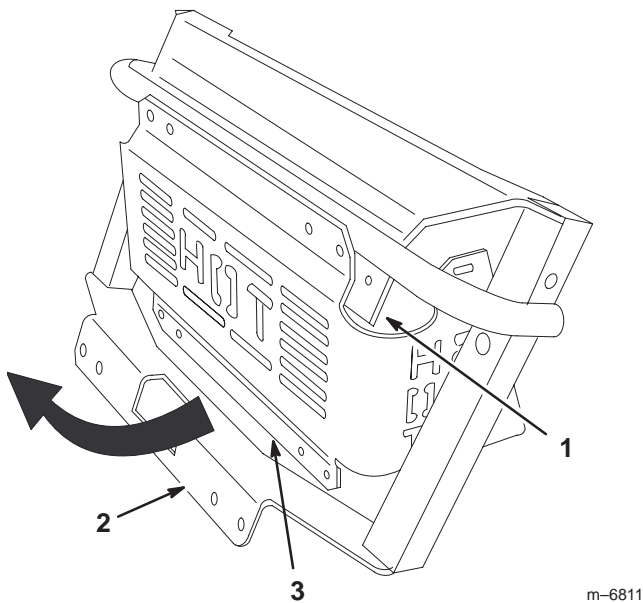

Figure 6
7. With the bagger bar in the heat shield notches, push the bottom of the heat shield towards the rear and past the back of the bagger bracket (Fig. 6).